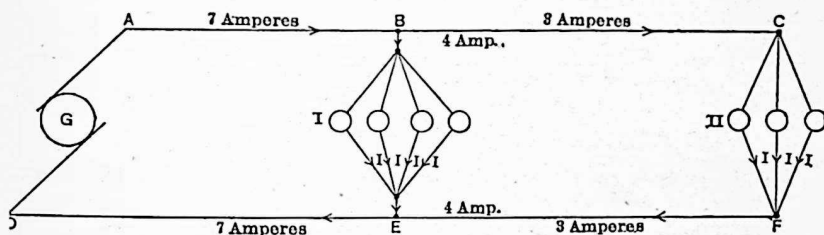
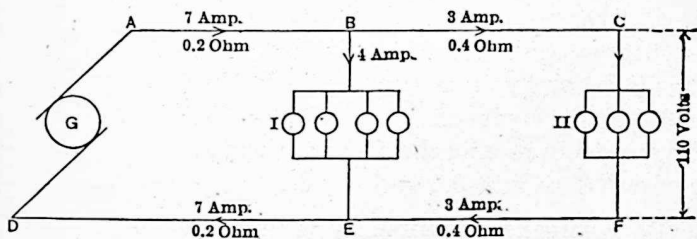

FIG. 63.
FIG. 69.
In Fig. 63, the sections *AB* and *DE* of the line are nearest the generator and thus have to carry enough current to supply both groups of lamps. Since Group I takes 4 amperes and Group II takes 3 amperes the generator must supply 7 amperes, and sections *AB* and *DE* of the line must carry 7 amperes.
Figs. 63 and 69 are identical except that in Fig. 69 the resistance of the line wire is known and the voltage across Group II is given as 110 volts. It is required to find the voltage across the generator and Group I.
**First Step. Current Distribution.** Note that as each lamp takes 1 amp., the current distribution in Fig. 69 is the same as in Fig. 63. That is, between Groups I and II, the line carries 3 amp. Between the generator and Group I, the line carries 7 amp. It is also essential to note that in all problems of this type we have started by finding the current distribution.